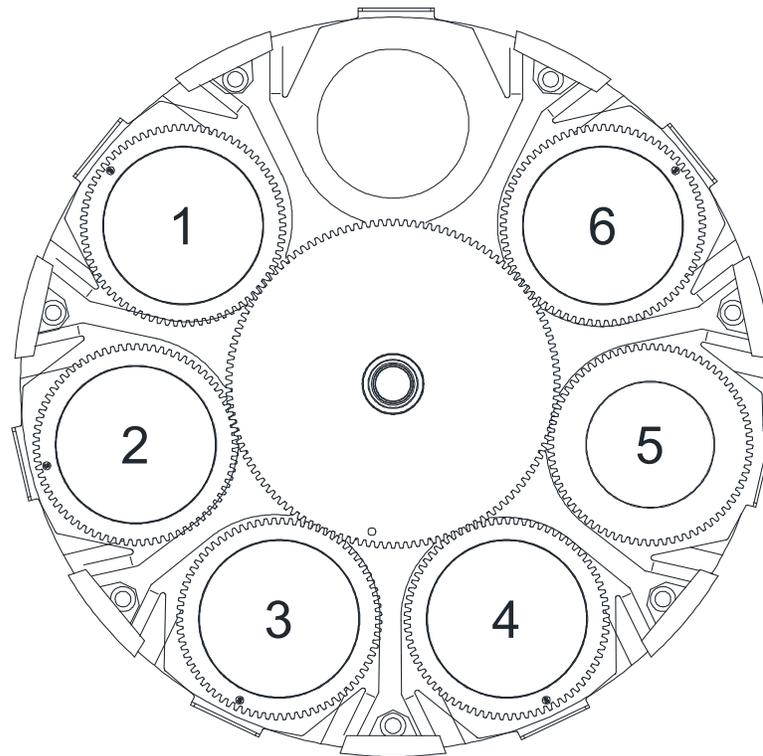

Figure 3-15: Gobo Wheel 2 Positions
- Rotate gobo wheel so that first position is accessible. Refer to **Figure 3-15** for wheel positions.